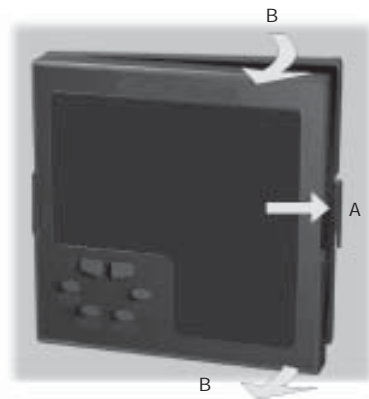

Fig. 14
- 3) While the lock A is maintained out, slide out the right side of the instrument (see fig. 14.a)